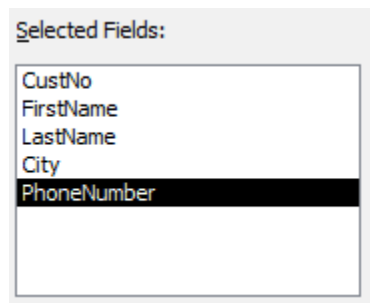

Figure 12: Fields Selected for the New Query
3. Select Fields to Include: Click the > button to move the fields shown in Figure 12 to the right. Select the fields shown in Figure 12 and click **Next**.